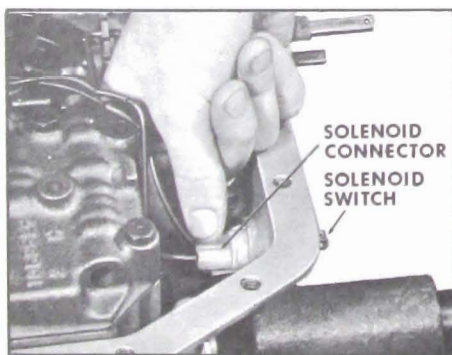

Figure 5-345
11. Install solenoid connector to solenoid switch. See Figure 5-345.